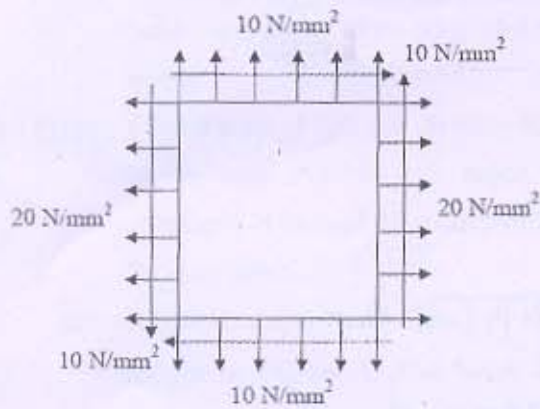

Figure 2
- (a) A rectangular block of material as shown in **Figure 2** is subjected to a tensile stress of 20 N/mm^2 on one plane and a tensile stress of 10 N/mm^2 on a plane at right angle, together with shear stresses of 10 N/mm^2 on the same planes. Find